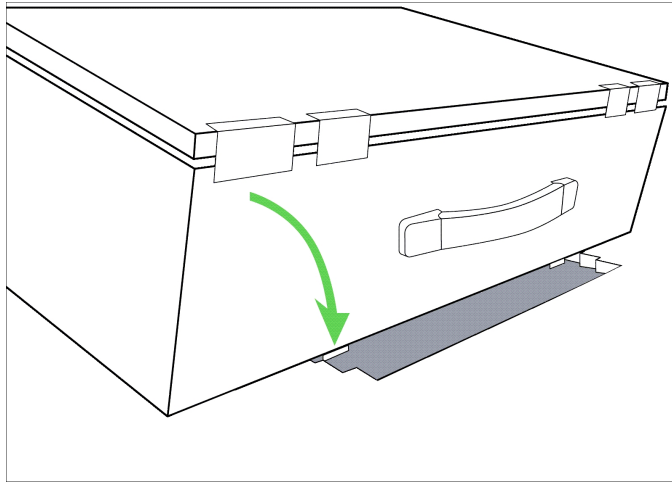

Figure 3-3. Inserting the metal attachment arms into the ballot cutout
5. The back-bottom surface of the voting station will dip down into the ballot cutout. The sheet metal attachment arms are going to interface with the underside of the ballot box's platform. Keep pushing the voting station back, maintaining the angle described earlier (Figure 3-3).